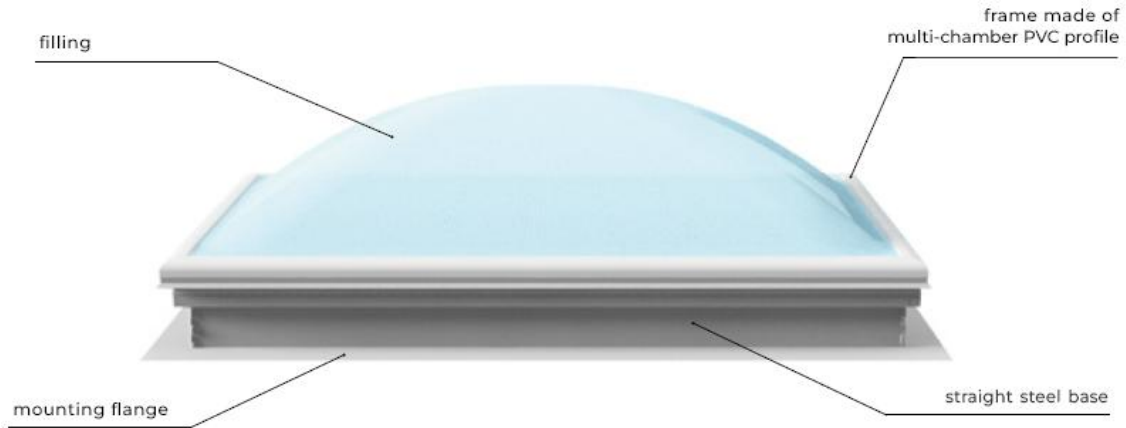
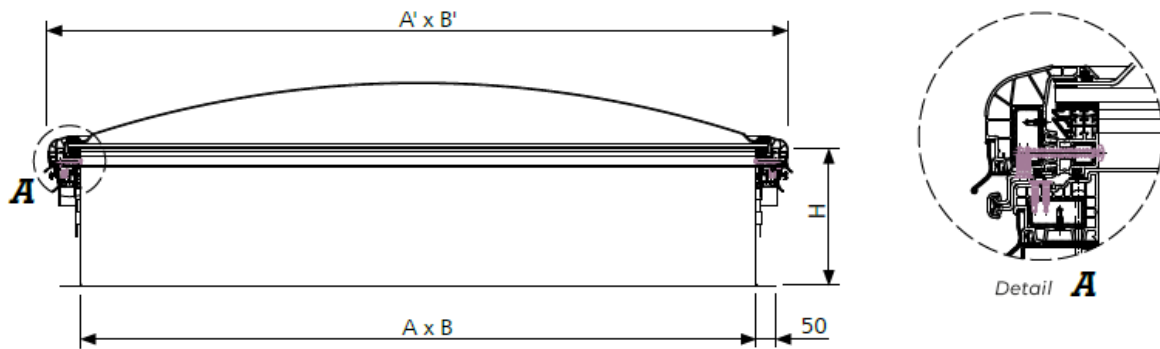

Fig. 3. Fixed skylight mcr ULTRA THERM type with straight steel base and PVC leaf.
Fig. 4. Cross-section through fixed skylight of the mcr ULTRA THERM type with straight steel base and PVC leaf.
- b) with a metal base* and a PVC leaf → see Fig. 3, Fig. 4